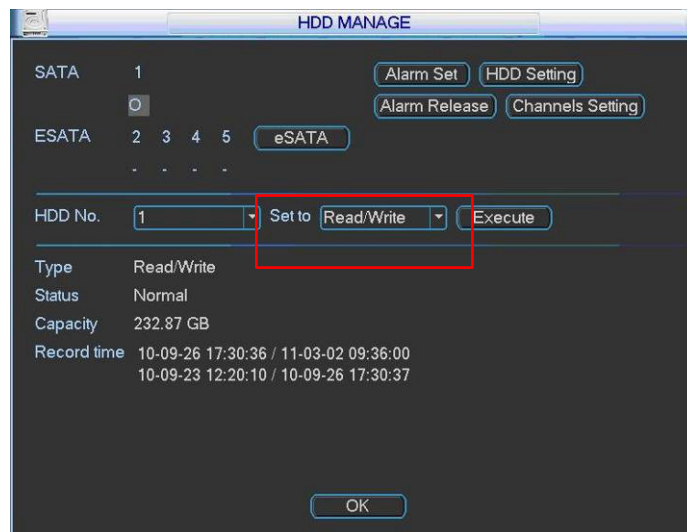

Figure 4-21
In the main menu, from Advanced to HDD management, you can set one or more disk(s) as redundant. You can select from the dropdown list. See Figure 4-21. System auto overwrites old files once hard disk is full.
- z Set redundant disk(s) as read-only disk or read-write disk (Main menu->Advanced->HDD management). See Figure 4-21. System needs to reboot to get setup activated. Now you can search or playback file in redundant disk.